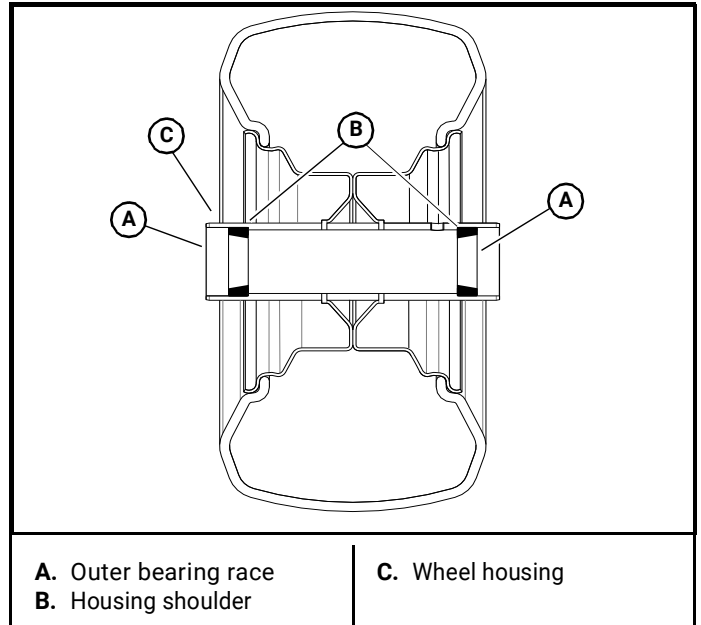

Figure 4-29
1. Press the new outer bearing races into the wheel housing until they are fully seated against the housing shoulder. Figure 4-29